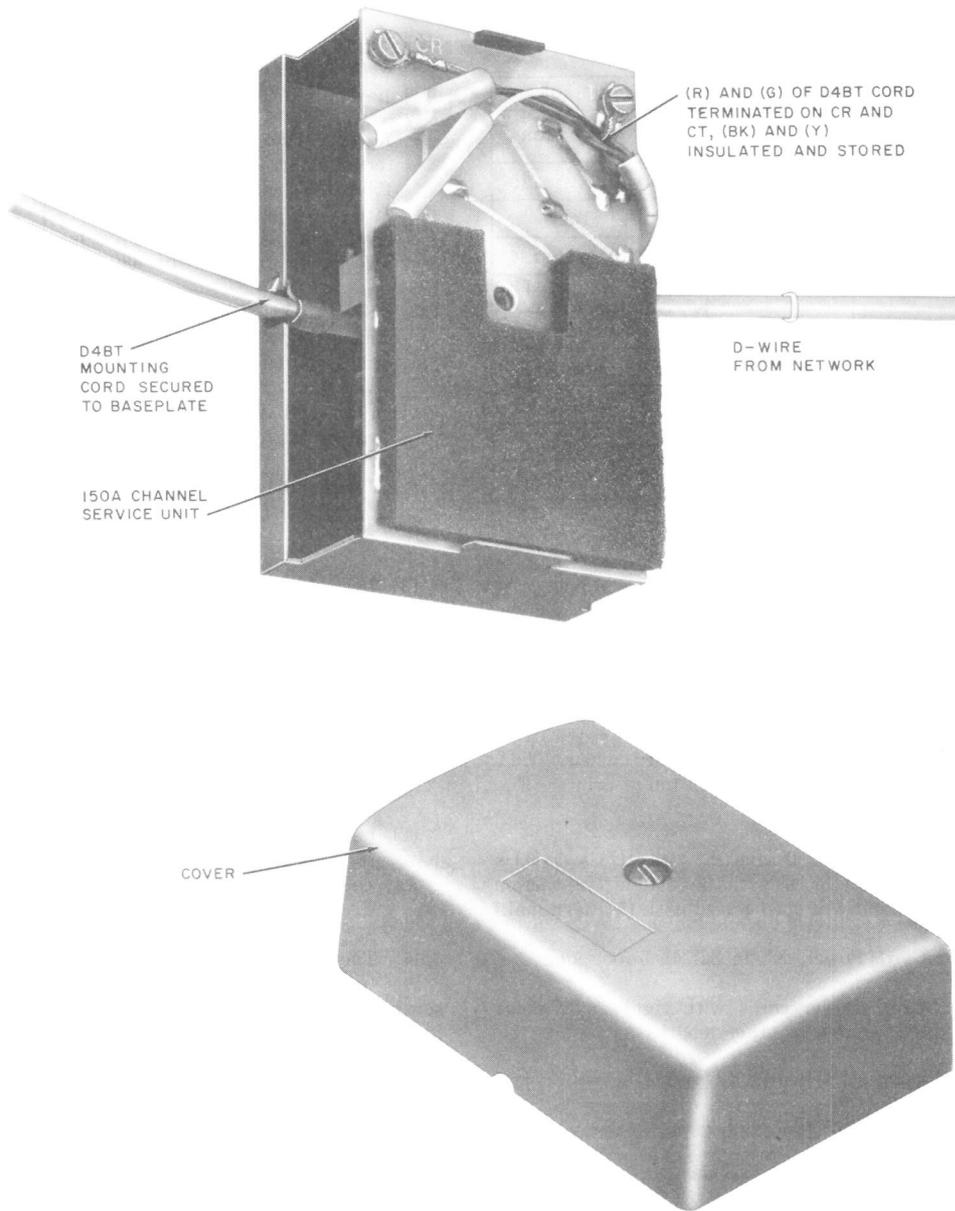

Fig. 2—150A Channel Service Unit Showing Connection of Transaction III Terminal Set
3.01 Verify that a Transaction Network polled access line has been installed and terminated in a 150A Channel Service Unit (CSU) Fig. 2.
3.02 Secure the **J-hook** (Fig. 2) of the D4BT mounting cord into the baseplate of the CSU and terminate as follows: